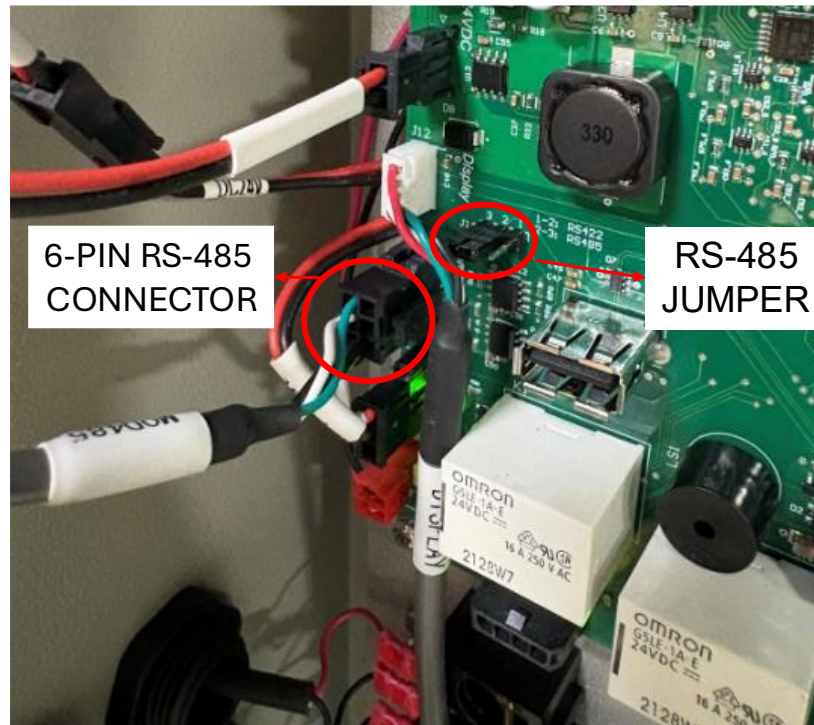

Figure 6.
6. Connect the 6-pin RS-485 connector to the main board. Double-check that the RS-485 jumper is installed on the main board. Figure 6.